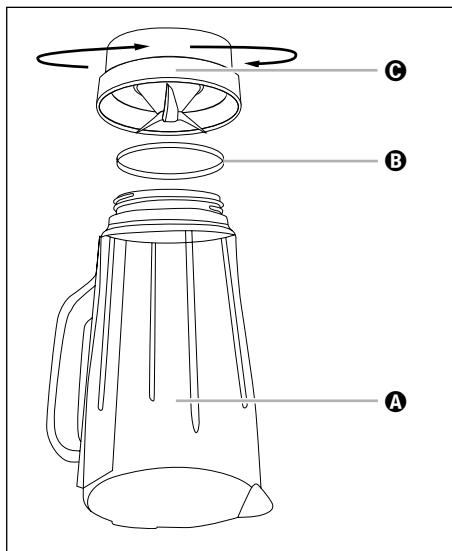

Fig. 4
- 2) Turn the appliance upside down and turn the plastic part C of the blender ③ anticlockwise so that it can be detached from the glass part A of the blender attachment ③ (see fig. 4).
- 6) If necessary, reinsert the sealing ring B into the plastic part C correctly. Then place the plastic part C of the blender ③ back on the glass part A of the blender ③ and turn the plastic part C clockwise.